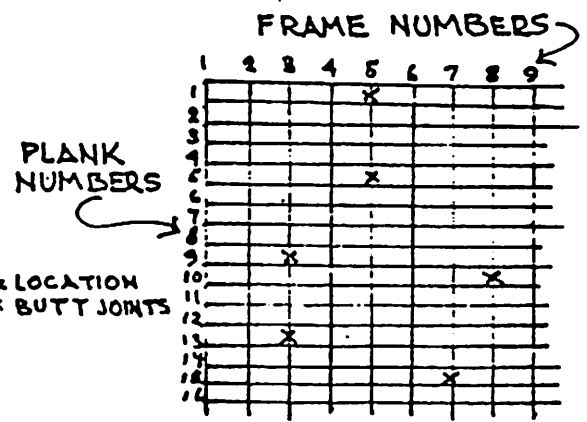

FIG. 2
6. Spacing of butt joints: 3 strakes between joints on the same frame or rib; 5 feet between joints on adjoining strakes; 4 feet between joints with one strake between. Make a simple sketch showing the location of each butt joint. Just draw horizontal lines numbered for each plank, and numbered vertical lines for each rib. This method will make cutting the planks to the proper length a simple job, and will avoid any error. (See Fig. 2)